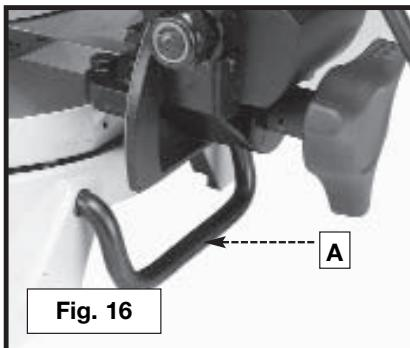
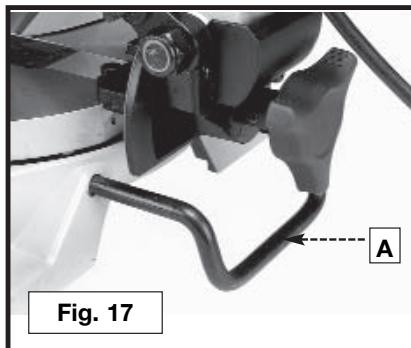
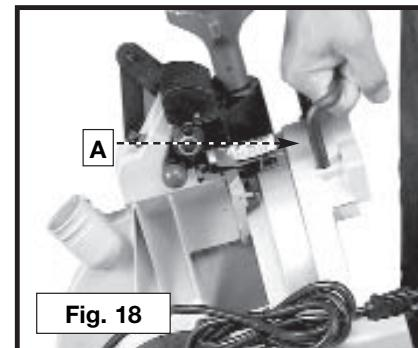

Fig. 16
Fig. 17
Fig. 18
**IMPORTANT:** Lifting the machine by the switch handle will cause misalignment. Always lift the machine by the base or by the carrying handle (See Fig. 18).
A rear support bar (A) Fig. 16 is provided to prevent the machine from tipping to the rear when the cuttinghead is returned to the "up" position. For maximum support, the bar (A) Fig. 17 should be pulled out as far as possible. The stabilizer bar (A) Fig. 18 can also be used to carry the machine.